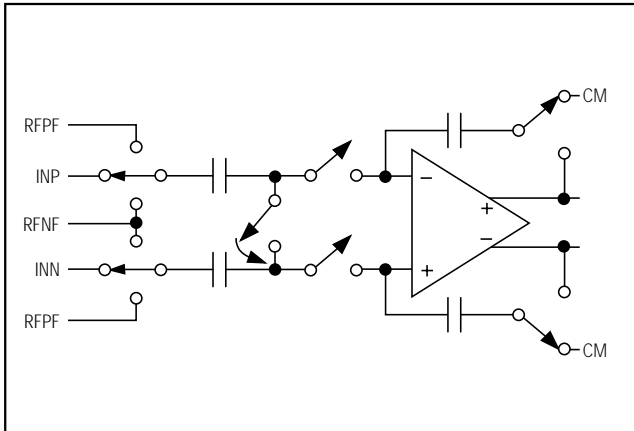

Figure 2. Simplified MDAC Architecture
Fully differential switched capacitor circuits (SC) are used for both the reference and analog inputs (Figure 2). This allows either single-ended or differential signals to be used in the reference and/or analog signal paths. The signal voltage on these pins (INP, INN, RFP\_, RFN\_) should neither exceed the analog supply rail, AVDD nor fall below ground.